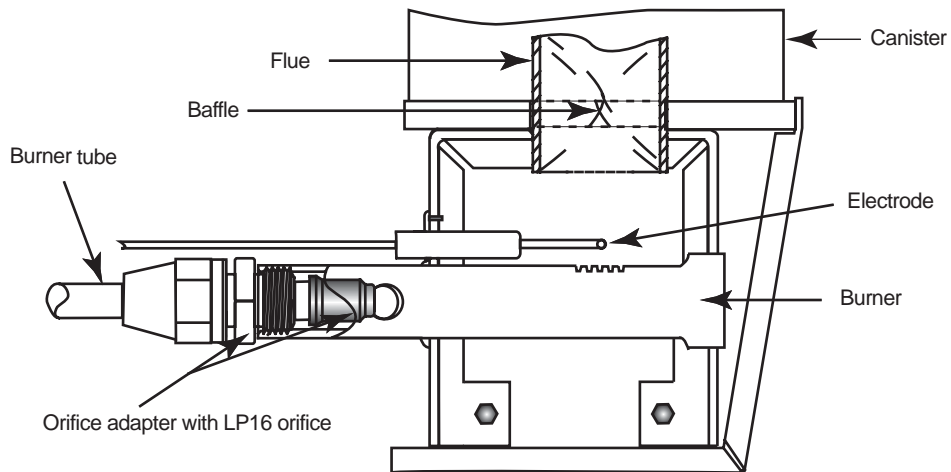

Figure 18. Burner and Components.
Step 6 through Step 8, refer to Figure 18, page 32